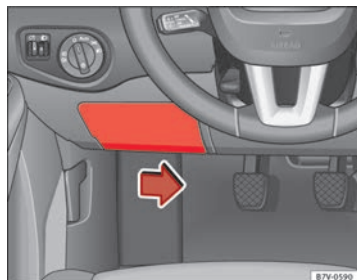

Fig. 201 On the driver-side dashboard: fuse box cover.
- To remove the cover, move the activation lever in the lower part to the right → fig. 201.